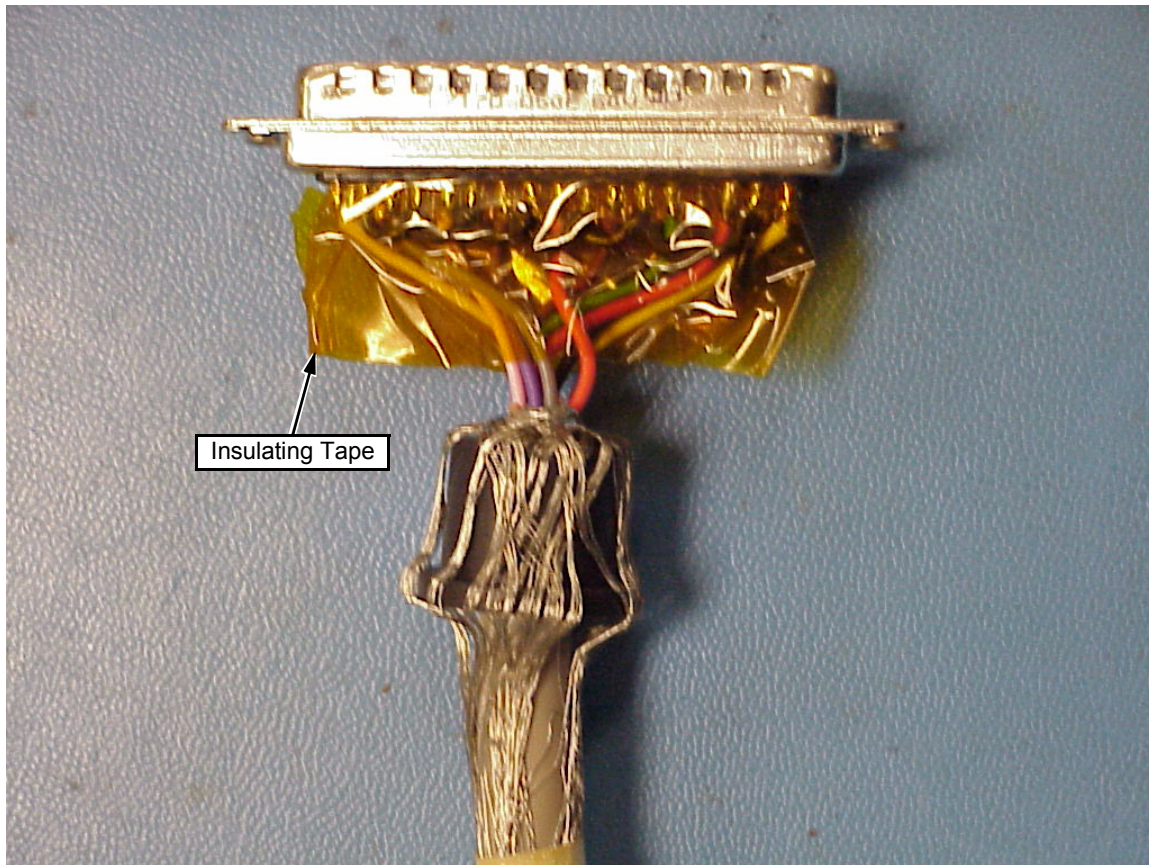

Figure 11. Wrapping the Contacts
6. Wrap the contacts with insulating tape. (Figure 11.)